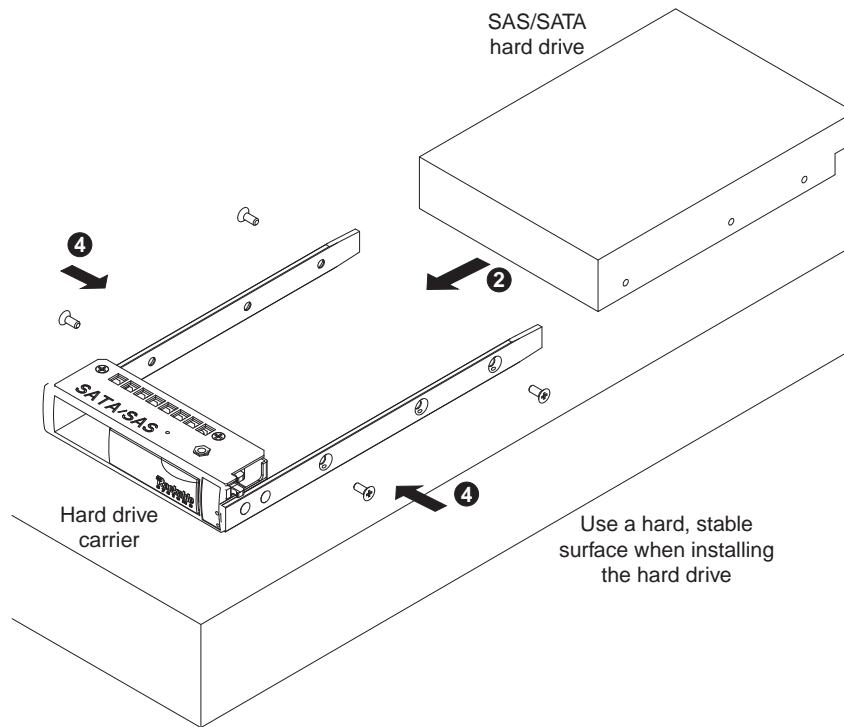

Figure 5-2 Mounting a Hard Drive in a Carrier
2. Insert a drive into the carrier with the printed circuit board side facing down, as shown in Figure 5-2.
4. Secure the drive to the carrier with four screws, as shown in Figure 5-2.